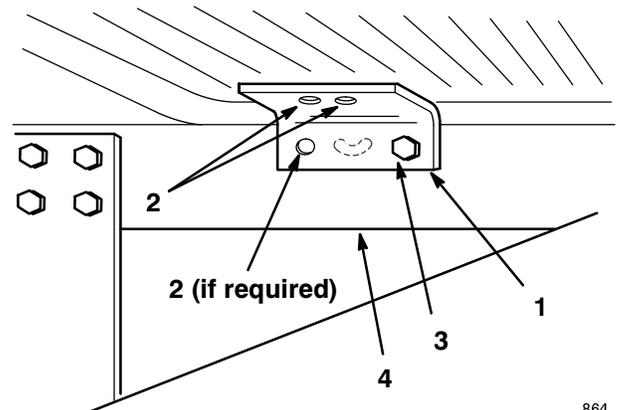

Figure 7
- Attach the support bracket to the frame below the left footrest using the rear hole in the bracket and the existing hole in the frame (Fig. 7). Secure with bolt (5/16 x 3/4 in.) and locknut.
- Using the support bracket as a template, drill the remaining mounting holes through the left frame rail (if required), footrest, and rubber mat with a 11/32 in. (.344 in.) diameter drill (Fig. 7). Install a second bolt (5/16 x 3/4 in.) and locknut to secure the support bracket to the frame rail.